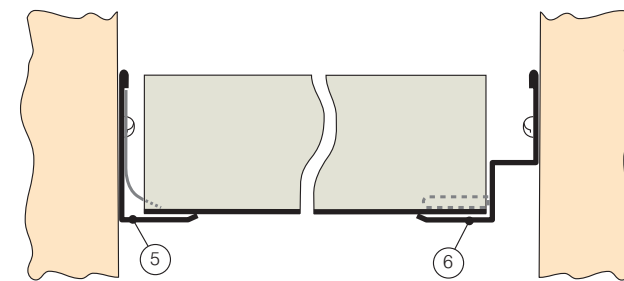

Fig. 4 Perimeter angles (5) and (6) Note: hold down clip (dotted line) for CUT PANELS ONLY.
optimum security. Either of the perimeter angles (5) or (6) (Fig.4) can be used to cloak the cut edges of Nexus-Tilux tiles at walls and other abutments. The edges are held down by clips on angle (5) and by pull out tabs on angle (6).